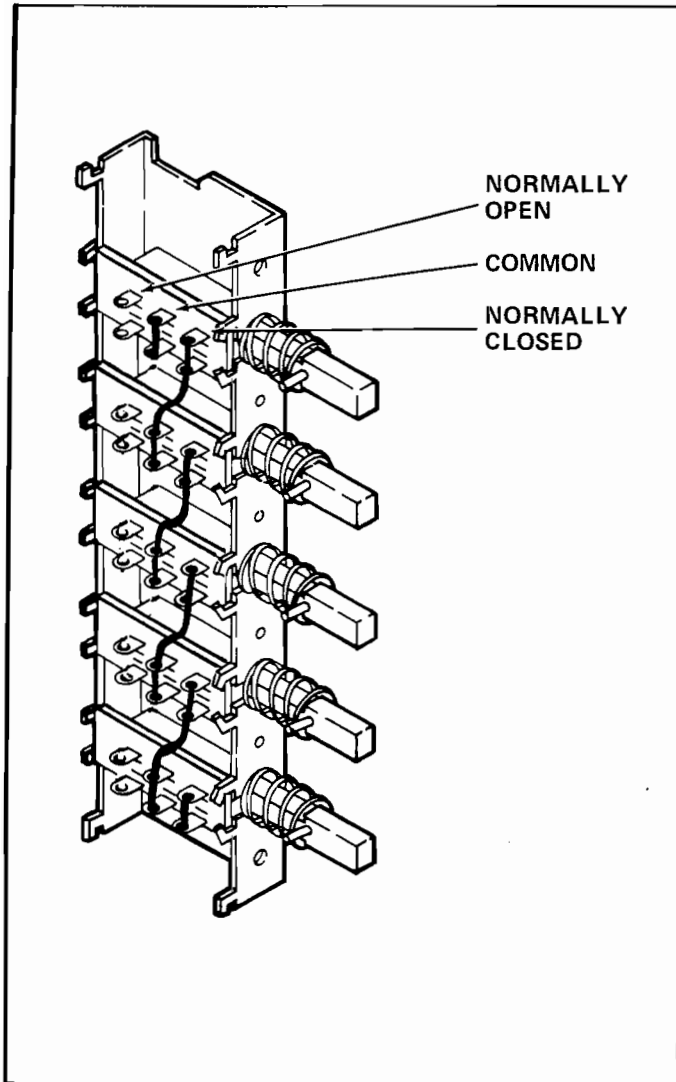

Figure 12. BANK OF FIVE SELECTION SWITCHES.
4. **MAIN PRODUCT SELECTION SWITCHES:** (Refer to page 26). The main product selection switches (item 4) are in banks of five (see Figure 12, page 8) and *cannot* be separated. Should one switch fail, it is necessary to replace a bank of five. To replace a switch bank or a selector button (item 6) remove the rear cover (item 8) from the switch assembly; it is a snap-fit to the switch mounting box (item 7). Unplug electrical harness at bottom of switch box. With the cover removed, the four mounting screws (item 9) (two top and two bottom) can be removed. The entire assembly can then be removed from the door and selection buttons and/or switch banks replaced.
5. **GUM-AND-MINT SELECTION SWITCHES:** (Refer to page 26). The Gum and Mint selection switches (item 4) are located on the door next to the Gum and Mint display box. The switch box (item 3) contains one bank of the same switches as used for the main product selection switches (see Figure 12, page 8). The cover (item 5) is a snapfit. The two mounting screws (item 9) (one top and one bottom) will remove the assembly. The buttons and/or switch bank can then be replaced.
6. **USE CORRECT CHANGE AND GUM AND MINT EMPTY LAMPS:** (Refer to page 14, item 14). The lamps are located on the door between the two boxes of selection switches. Use only 24V lamps for replacement.